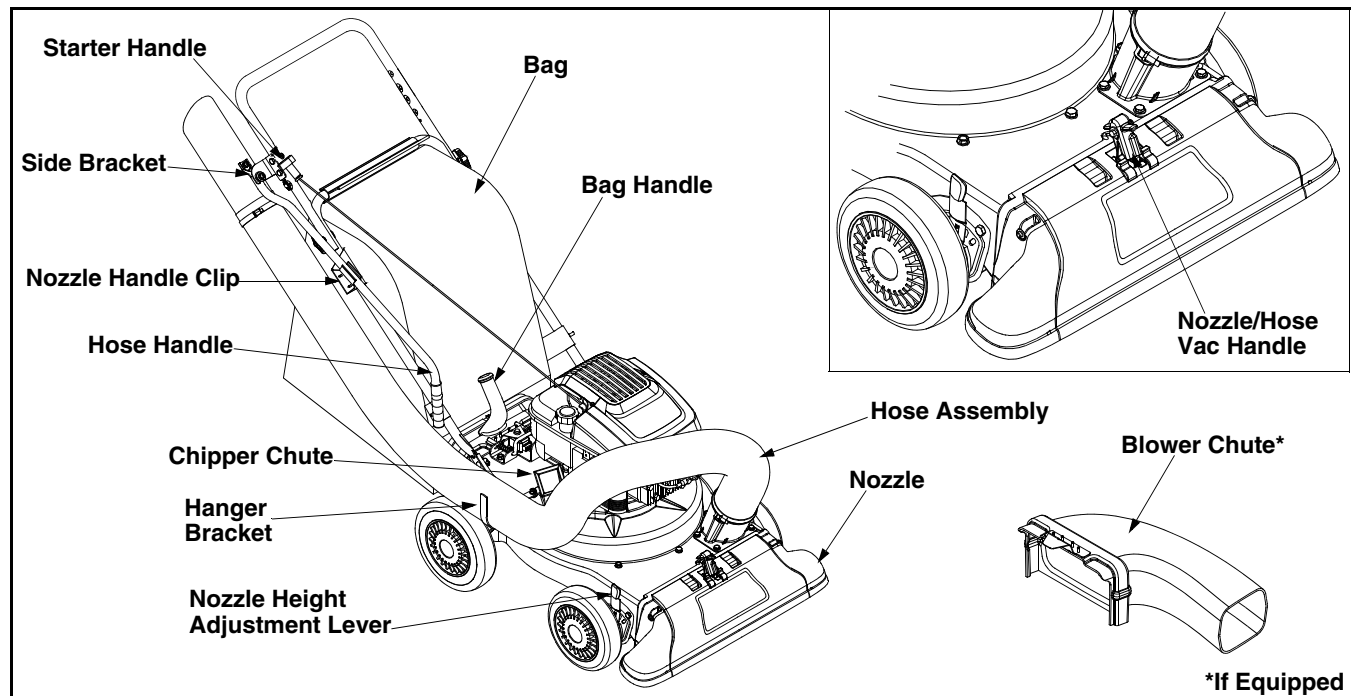

Figure 6
- Connect the hose handle near nozzle end of hose to the handle bracket on the upper handle. Refer to Figure 6.
- Snap hose handle into the nozzle handle clip on the lower handle to secure in place and lay hose tubing on side hanger bracket next to chipper chute. Refer to Figure 6.
Read this operator's manual and safety rules before operating your Yard Vacuum. Compare the illustrations in Figure 6 with your unit to familiarize yourself with the location of various controls and adjustments.
Wheels: Lubricate each wheel shoulder screw once a season with light oil. Refer to Figure 6.
Nozzle height adjustment levers: Lubricate the pivot points of the nozzle height adjustment levers once a season with light oil. Refer to Figure 6.
Locking Rod: Lubricate the locking rod with light oil to ease the application of attaching on or removing bag or blower chute (if equipped). Refer to Figure 6.
Nozzle/Hose Vac Handle: Lubricate the nozzle/hose vac handle on top of nozzle once a season with light oil. Refer to Figure 6.